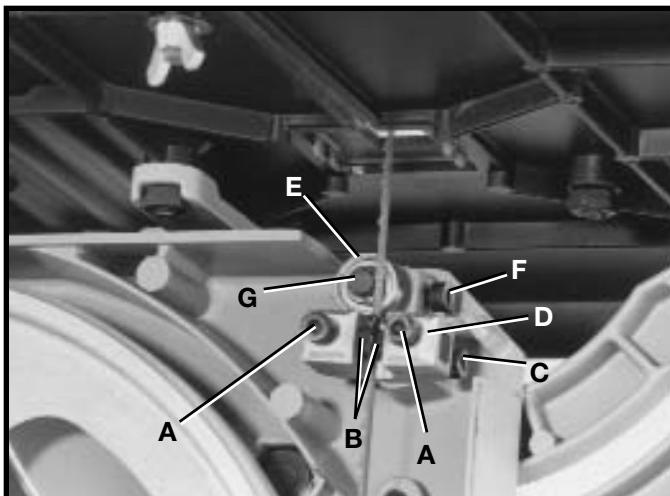

Fig. 24
1. Loosen two screws (A) Fig. 24, and move guides (B) as close as possible to the sides of the blade, being careful not to pinch the blade. Then tighten the two screws (A).
2. The front edge of guide blocks (B) Fig. 24, should be adjusted so they are just behind the "gullets" of the blade teeth by loosening screw (C), and moving assembly (D) in or out as necessary. Then tighten screw (C).
3. The lower blade support bearing (E) Fig. 24, should be adjusted to support the rear of the blade during the cutting operation and also prevent the blade from being pushed too far to the rear which could damage the blade. The support bearing (E) Fig. 24, should be set about $1/32"$ behind the blade by loosening screw (F) Fig. 24, and moving shaft (G) in or out. Then tighten screw (F).
4. The lower blade support bearing (E) Fig. 24, should also be adjusted so the back of the blade overlaps the outside diameter of the ball bearing by approximately $1/8"$. The blade support bearing (E) is set on an eccentric shaft. To change position of bearing (E), loosen screw (F) Fig. 24, and rotate shaft (G) Figs. 24 and 25, until the blade properly overlaps the support bearing. Then tighten screw (F) Fig. 24.